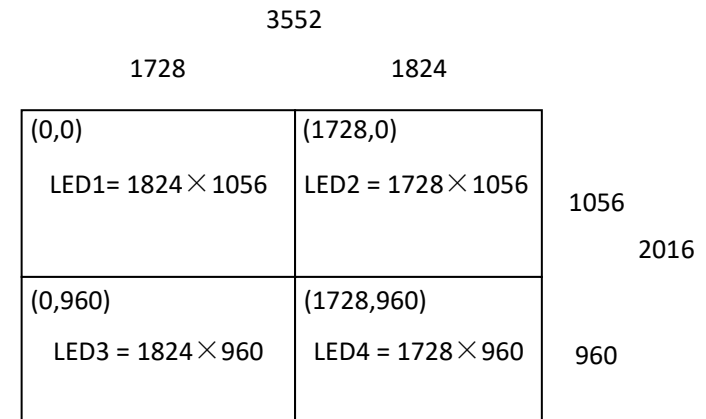

Figure 4-9
2) As figure 4-9, the LED is composed of 4 unit screen, each unit screen resolution as following table